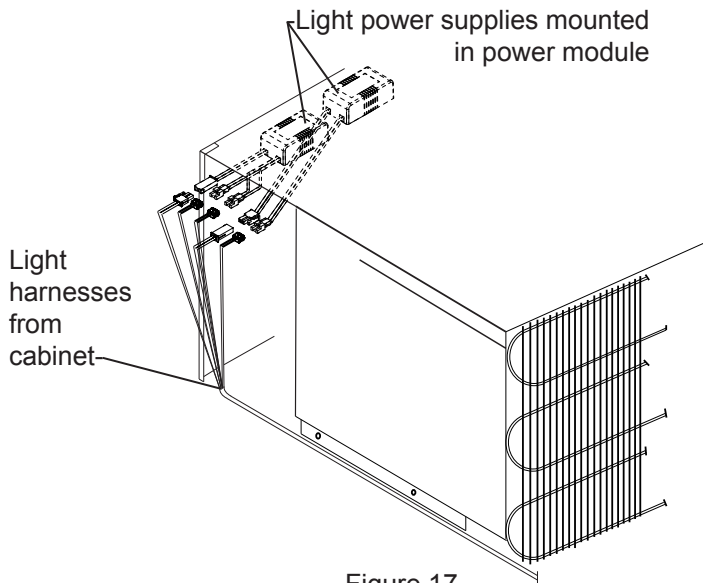

Figure 17
**On 18" wide freezer models only (M42CSS) (M48CSS) (MPRO48CSS):** Plug in the (5) electrical connectors for the lights coming from the cabinet into the (2) power supplies which are attached to the power module, see Figure 17.